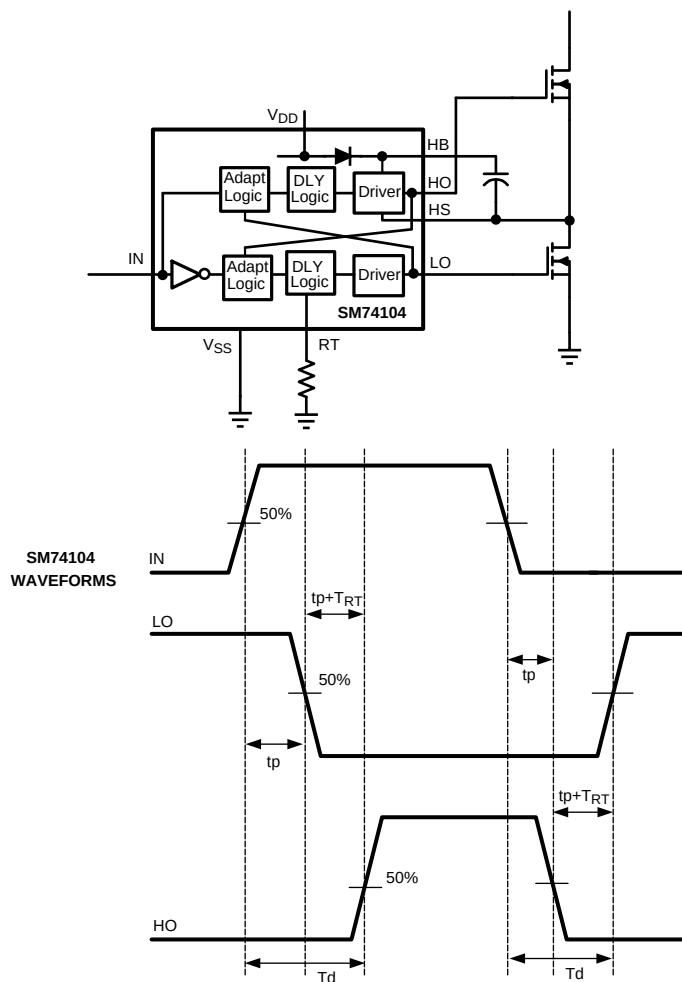

Figure 16. Application Timing Waveforms
Referring to the timing diagram in Figure 16, the rising edge of the PWM input (IN) turns off the bottom MOSFET (LO) after a short propagation delay (t_p). An adaptive circuit in the SM74104 monitors the bottom gate voltage (LO) and triggers a programmable delay generator when the LO pin falls below an internally set threshold ($\approx V_{dd}/2$). The gate drive of the upper MOSFET (HO) is disabled until the deadline expires. The upper gate is enabled after the TIMER delay ($t_p + T_{RT}$), and the upper MOSFET turns-on. The additional delay of the timer prevents lower and upper MOSFETs from conducting simultaneously, thereby preventing shoot-through.